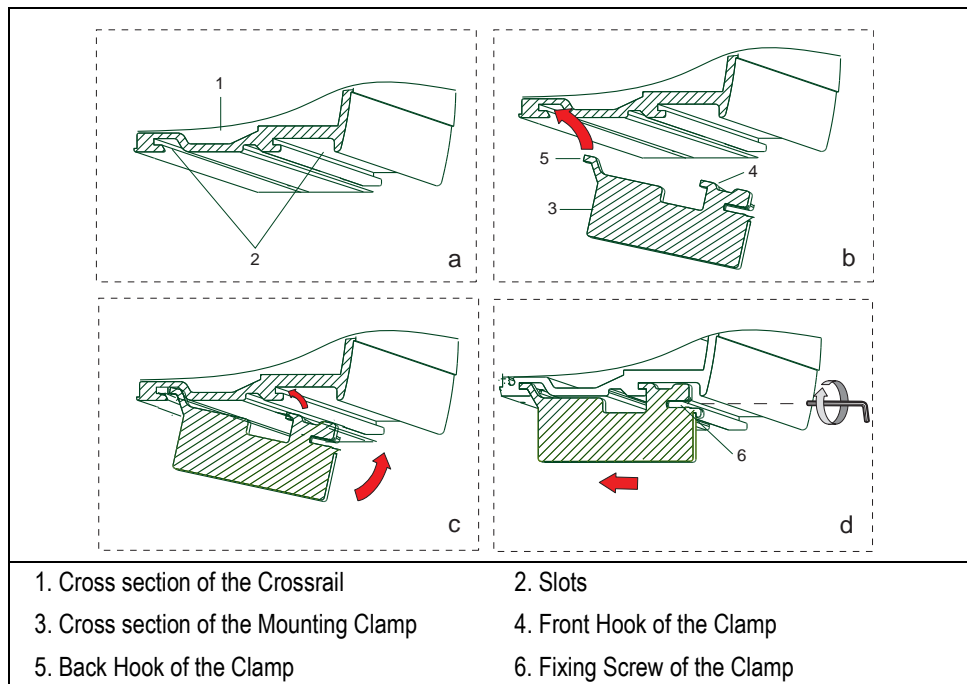

Figure 3-31. Hooking Sequence of the Clamp (2)
1. Slightly tilt the component downwards in a way that the back hook of the clamp, present on the top, enter the proper slot. See **b** of Figure 3-31.
2. Straighten the component so that also the front hook of the clamp enters the proper slot parallel to the previous one. See **c** of Figure 3-31.
3. Slightly push the component backwards in a way that the clamp hooks result perfectly anchored. See **c** and **d** of Figure 3-31.
4. Tighten the fixing screw located behind the clamp. See **d** of Figure 3-31.